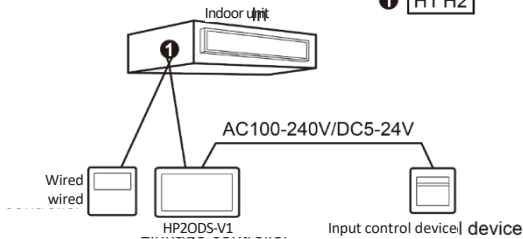

Fig. 5.13 Connection method 2 for wired control and input control
- ② The HP20DS-V1 shown in Figure 5.13 must be configured as the HBS slave device.
- (3) Power input for the card insertion/removal device supported by the HP20DS-V1: AC 100–240 V, 50/60 Hz; DC 5–24 V. In practice, connect the input control device's output power cable to the corresponding power interface on the HP20DS-V1 according to the input control device's output power type (please